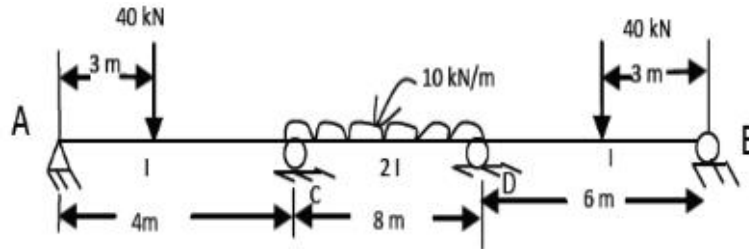

Fig.3
6. Determine the end moments of the continuous beam as shown in Fig. 3 below by Kani's method. E is constant.